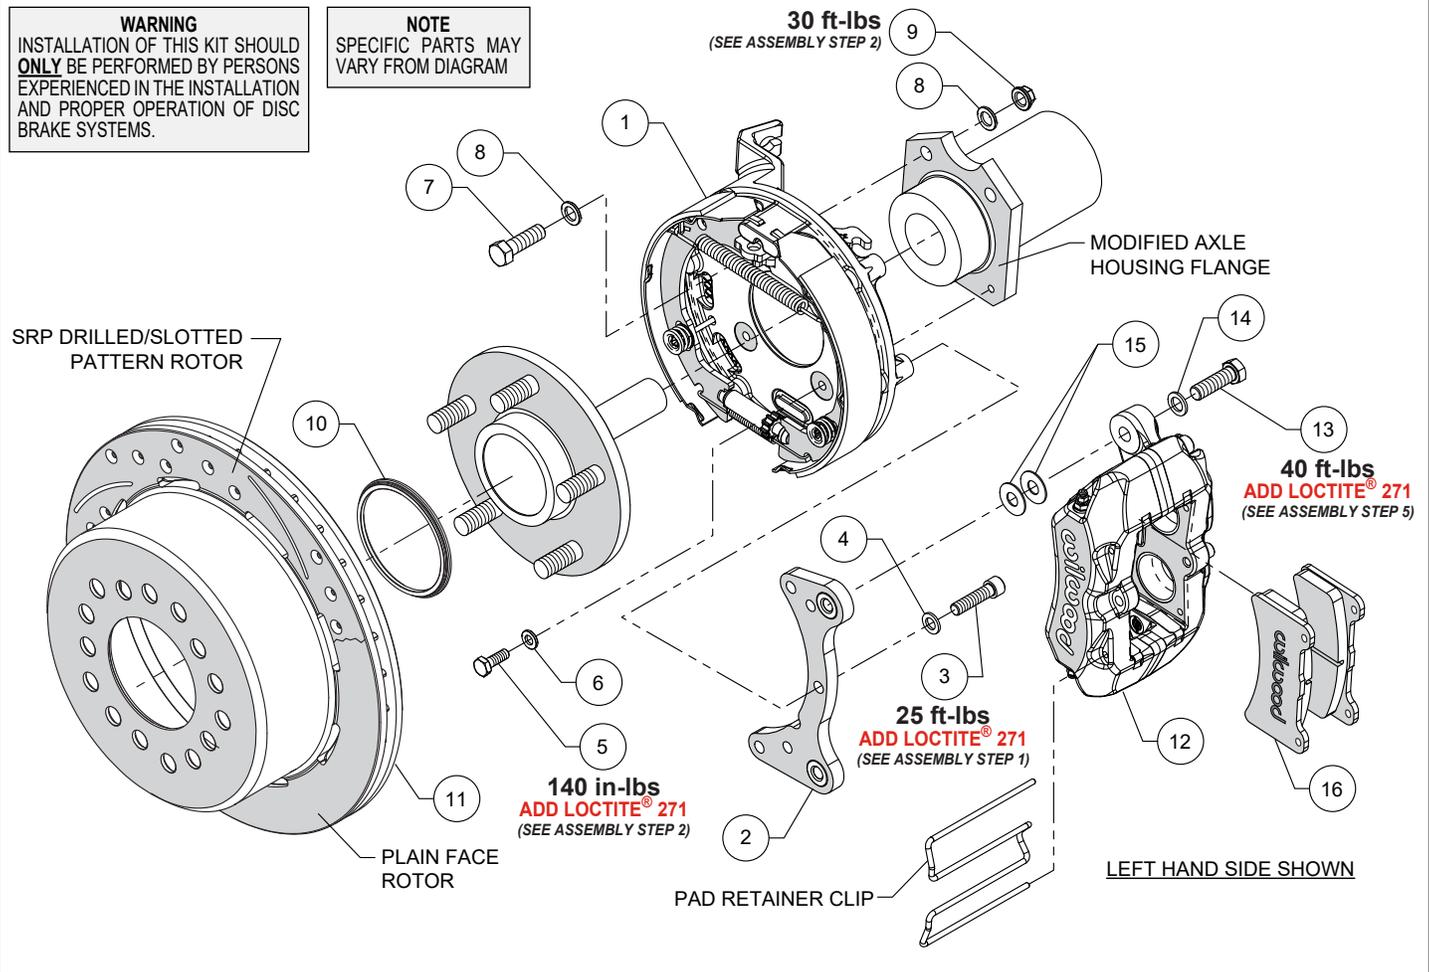
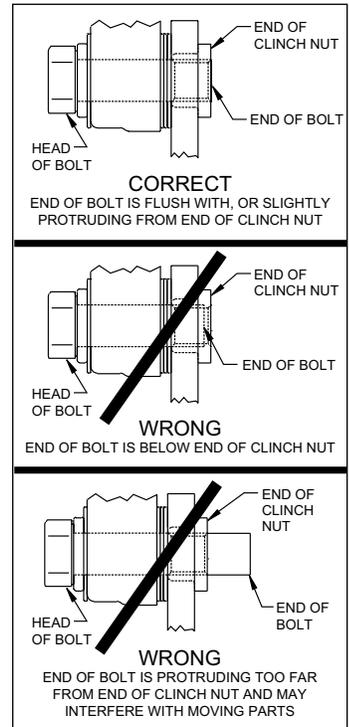

Figure 1. Typical Installation Configuration
Figure 4. Clinch Nut Engagement Diagram
NOTE: Numbers in parenthesis refer to the parts list and Figure 1 on the preceding pages.
CAUTION: All mounting bolts must fully engage clinch nuts. Be sure to check that all bolts are either flush or protruding through flanged side of clinch nut after shimming, Figure 4.
STEP 1 Orient the backing plate assembly (1) and caliper mounting bracket (2) as shown in Figure 1 and Photo 1. **NOTE:** Be sure the heads of the caliper bracket clinch nuts (2) are facing outward toward the wheel. Use bolts (3) and washers (4) to mount bracket to backing plate. Apply red *Loctite*® 271 to the bolt threads and torque to value shown in Figure 1.
STEP 2 Attach backing plate assembly/caliper mounting bracket to lower threaded holes of axle housing flange using bolts (5), and washers (6), as shown in Photo 2. Use bolts (7), washers (8), and lock nuts (9) on remaining upper bolt holes to finish attaching backing plate to axle housing, Figure 1. Temporarily tighten all the mounting bolts. **NOTE:** The backing plate must fit squarely against the axle housing flange face. Inspect for interference from casting irregularities, machining ridges, burrs, etc. After the fitment has been checked, torque nuts (9) to value shown in Figure 1. Remove the backing plate lower M6 mounting bolts (5) one at a time, apply red *Loctite*® 271 to the threads and torque to value shown in Figure 1.
STEP 3 Slide the axle into the axle housing and secure following OEM instructions. Install the rotor registration adapter (10) onto the axle flange with the smaller O.D. facing toward the rotor/hat (11), Photo 3.
STEP 4 Align the correct hole pattern in the rotor/hat with the stud pattern on the axle flange and slide into place, Figure 1 and Photo 4. **NOTE:** The rotor/hat must fit flush against the axle flange or excessive rotor run out may result. Install three lug nuts (finger tight) to keep the rotor/hat assembly in place while continuing with the installation, Photo 4. **NOTE:** Some OEM and after market axles come with stud sizes larger than 1/2" diameter. Verify stud size and have a qualified machine shop drill the bolt circle of the hat/rotor to the correct stud size, if necessary.
STEP 5 **NOTE:** Please reference the caution statement at the beginning of the assembly instructions. Mount the caliper (12) onto the caliper mounting bracket (2) using bolts (13) and washers (14), as shown in Figure 1 and Photo 6. Initially place two .035"
The end of each bolt (13) must be flush with or slightly protruding from the head of the clinch nut, as shown in Figure 4. If necessary, place spare shims between washer (14) and caliper mounting ear to achieve the proper clinch nut engagement. Once the caliper alignment and clinch nut engagement are correct, remove the bolts (13) one at a time, apply red Loctite® 271 to bolt threads, and torque to value shown in Figure 1.
STEP 6 Install the disc brake pads (16) into the caliper, with the friction material facing the rotor (11). Secure in place using pad retainer clip and retainer bolt, Figure 1 and Photo 8.
•**NOTE:** Clevis and cable kits which attach to the parking brake assembly are not included in the Wilwood parking brake kit. Wilwood offers a generic style parking brake cable kit, P/N 330-9371 for this application which can be ordered separately from your local Wilwood dealer or by calling Wilwood customer service at (805) 388-1188.
STEP 8 Install three lug nuts to hold the rotor/hat (11) securely in place, remove the rubber grommet in the backing plate kit assembly (1) and adjust the parking brake shoes outward (using a drum shoe adjustment tool available at your local auto parts store) while spinning the rotor/hat (11) until a slight drag is felt against the hat/drum. Replace the rubber grommet when finished.